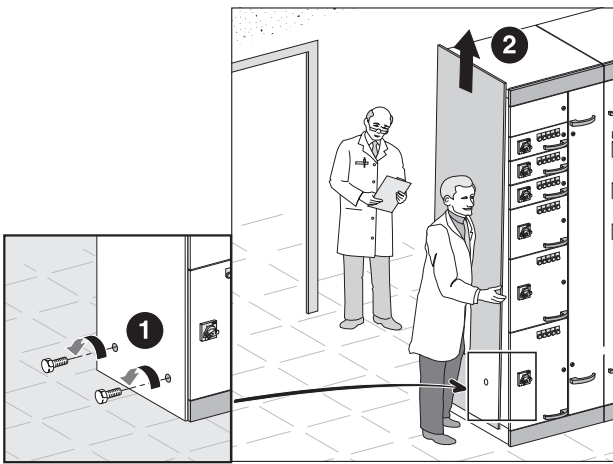

Fig. 8
- Remove the side panels (see Fig. 8):